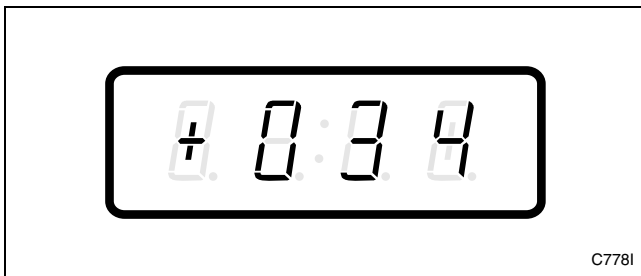

Figure 133
3. Press the DELICATES (+) or the COLD (-) keypad to scroll through the programmable options until “+034” appears in the VFD. Refer to *Figure 133*.